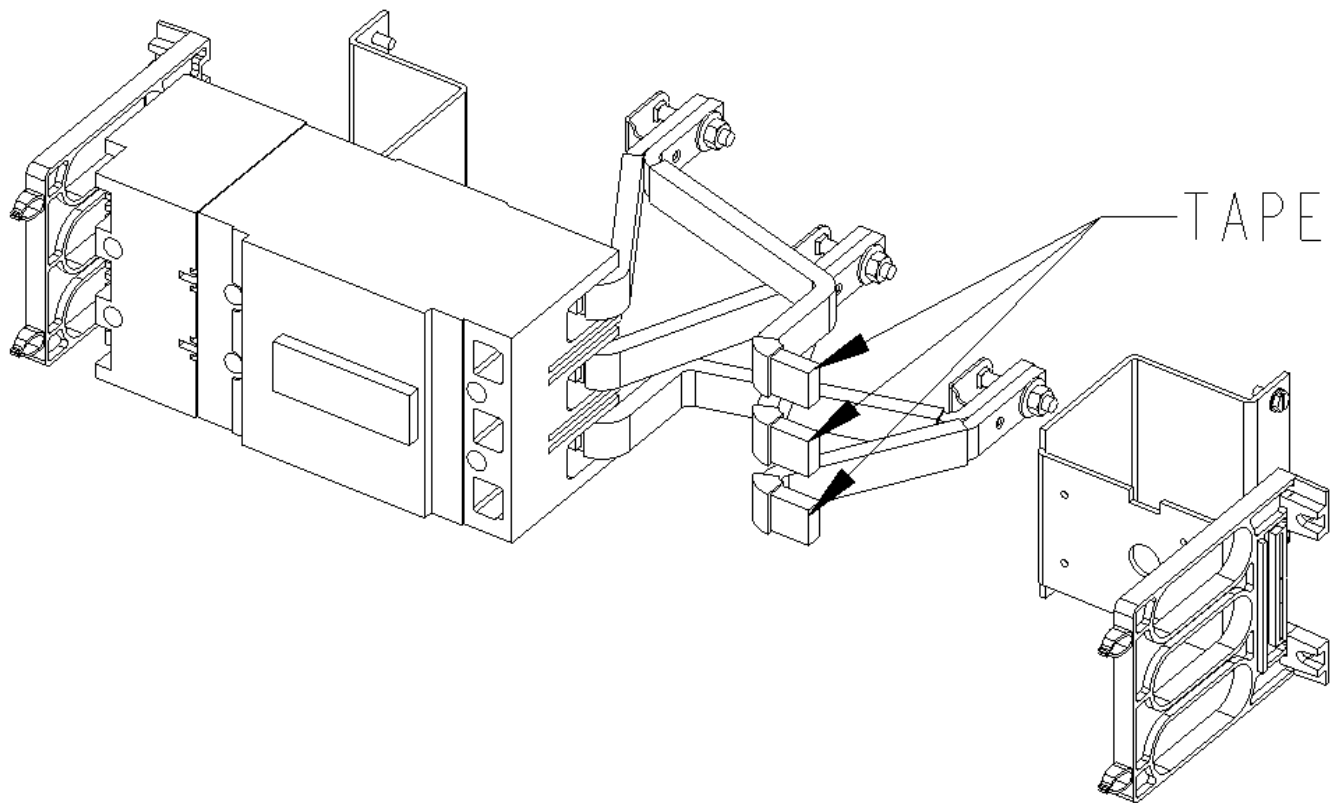

Figure 7. Taping unused straps.
7. Tape unused straps. Apply multiple wrappings of insulation to the unused strap contact surfaces, as shown in Figure 7. A UL or CSA Recognized 105° C thermoplastic tape (OANZ2) is required. Overlap more than one-half of the preceding turns, as shown, to achieve a minimum tape thickness of 0.028 inch. This insulation thickness requires two complete layers of overlapping turns.